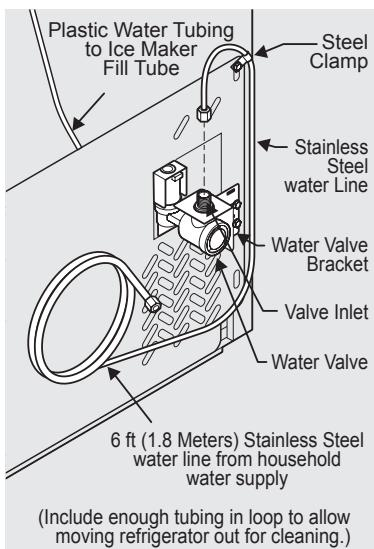

Figure 2
5. If you use braided flexible stainless steel tubing - The nut is already assembled on the tubing. Slide nut onto valve inlet and finger tighten nut onto valve. Tighten another half turn with a wrench; DO NOT overtighten. See Figure 2.